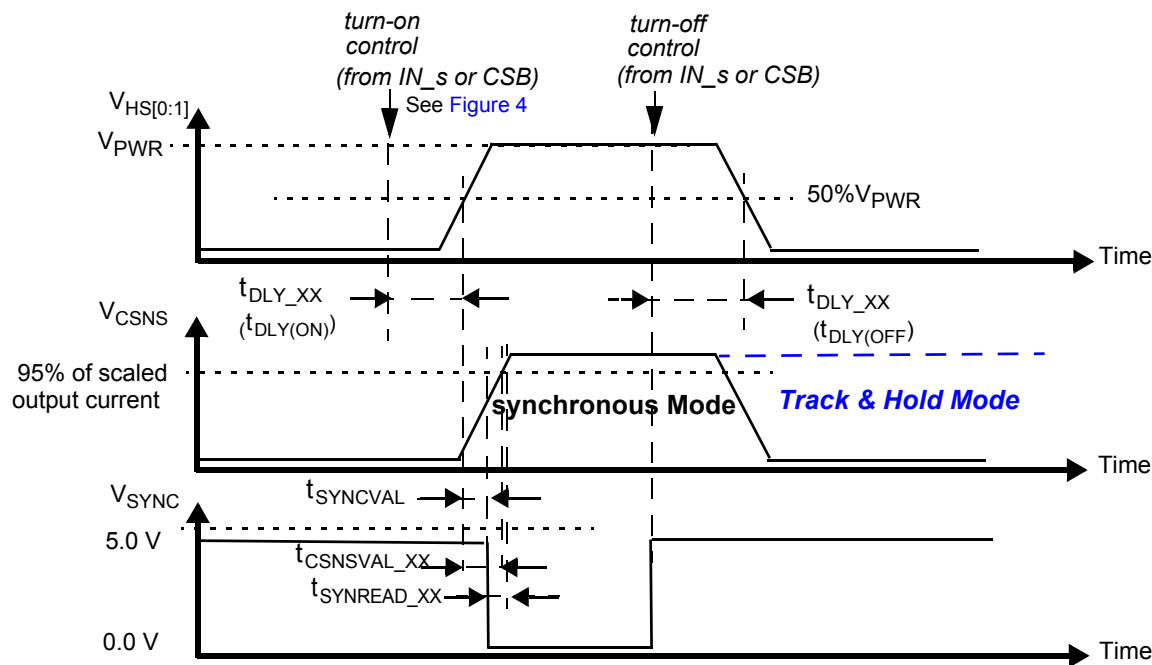

Figure 9. Synchronous & Track-and-Hold Current Sensing Modes: Associated Delay & Settling Times
29. Time required to switch off the channel after detection of overtemperature (OT), overcurrent (OC), SC or UV error (time measured between start of the negative edge on the FSB pin and the falling edge on the output voltage until $V(\text{HS}[0:1]) = 50\%$ of V_{PWR}).
30. Settling time ($= t_{CSNSVAL_XX}$), SYNC output signal delay ($= t_{SYNCVAL_XX}$) and Read-out delay ($= t_{SYNREAD_XX}$) are defined for a stepped load current using a 10 Ω resistive load for $\text{CSNS_RATIO_s} = 0$. (see Figure 9 and Output Current Monitoring \(CSNS\)).
The CS pin allows independent current monitoring of channel 0 or channel 1 up to the steady-state overcurrent threshold. It can also be used to sense the device temperature. The different functions are selected by setting bits CSNS1_en and CSNS0_en to the appropriate value (Table 22). When the CSNS pin is sensed during switch-off in the (optional) track & hold mode (see Figure 9), it outputs the scaled value of the load current as it was just before turn-Off. When several devices share the same pull-down resistor, the CSNS pins of devices the current of which is not monitored must be tri-stated. This is accomplished by setting CSNS0_en = 0 and CSNS1_en = 0 in the GCR register (Table 9). Settling time ($t_{CSNSVAL_XX}$) is defined as the time between the instant at the middle of the output voltage's rising edge ($HS[0:1] = 50\%$ of V_{PWR}), and the instant at which the voltage on the CSNS-pin has settled to $\pm 5.0\%$ of its final value. Anytime an overcurrent window is active, the CSNS pin is disabled (see Overcurrent Detection on Resistive and Inductive Loads). The current and temperature sensing functions are unavailable in Fail-safe mode and in Normal mode when operating without the V_{DD} supply voltage. In order to generate a voltage output, a pull-down resistor is required ($R(CSNS)=1.0\text{ k}\Omega$ typ. and $470 < R(CSNS) < 10\text{ k}$). When the current sense resistor connected to the CSNS pin is disconnected, the CSNS voltage is clamped to $V_{CL(CSNS)}$. The CSNS pin can source currents up to about 5.6 mA.
To synchronize current sensing with an external process, the SYNC signal can be connected to a digital input of an external MCU. SYNC is asserted logic low when the current sense signal is accurate and ready to be read. The current sense signal on the CSNS pin has the specified accuracy $t_{SYNCREAD_XX}$ seconds after the falling edge on the SYNC pin (Figure 9) and remains valid until a rising edge is generated. The rising edge that is generated by the SYNC pin at the turn-OFF instant (internal or external) may also be used to implement synchronization with the external MCU. Parameter $t_{SYNCVAL_XX}$ is defined as the time between the instant at the middle of the output-voltage rising edge ($HS[0:1] = 50\%$ of $VPWR$), and the instant at which the voltage on the SYNC-pin drops below 0.4 V (V_{SOL}). The SYNC pins of different devices can be connected together to save μ -controller input channels. However, in this configuration, the CSNS function of only one device should be active at a time. Otherwise, the MCU does not determine the origin of the SYNC signal. The SYNC pin is open drain and requires an external pull-up resistor to VDD.